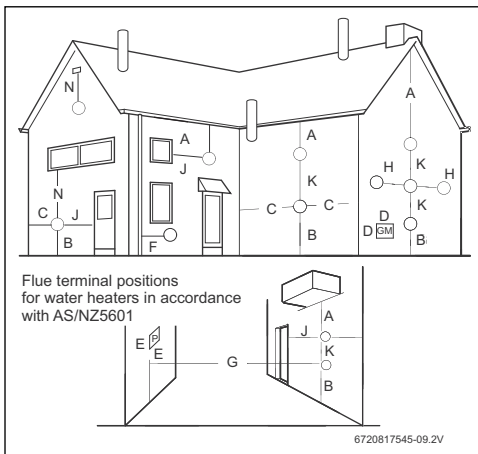

Fig. 5 Minimum flue clearances
- ▶ Comply with the minimum installation clearances indicated in Fig. 5 and Table 6.
- Install the appliance in accordance with the minimum installation clearances indicated in Fig. 5 and Table 6, according to AS/NZS5601.